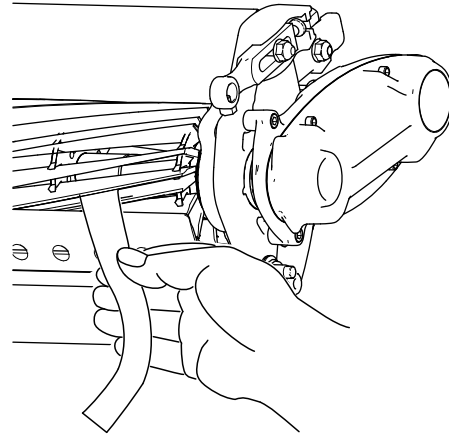

Figure 9
- B. Insert a long strip of cutting performance paper (Toro Part No. 125-5610) between the reel and bedknife, perpendicular to the bedknife (Figure 9), then **slowly** rotate the reel forward; it should cut the paper; if not, repeat steps **A** and **B** until it does.